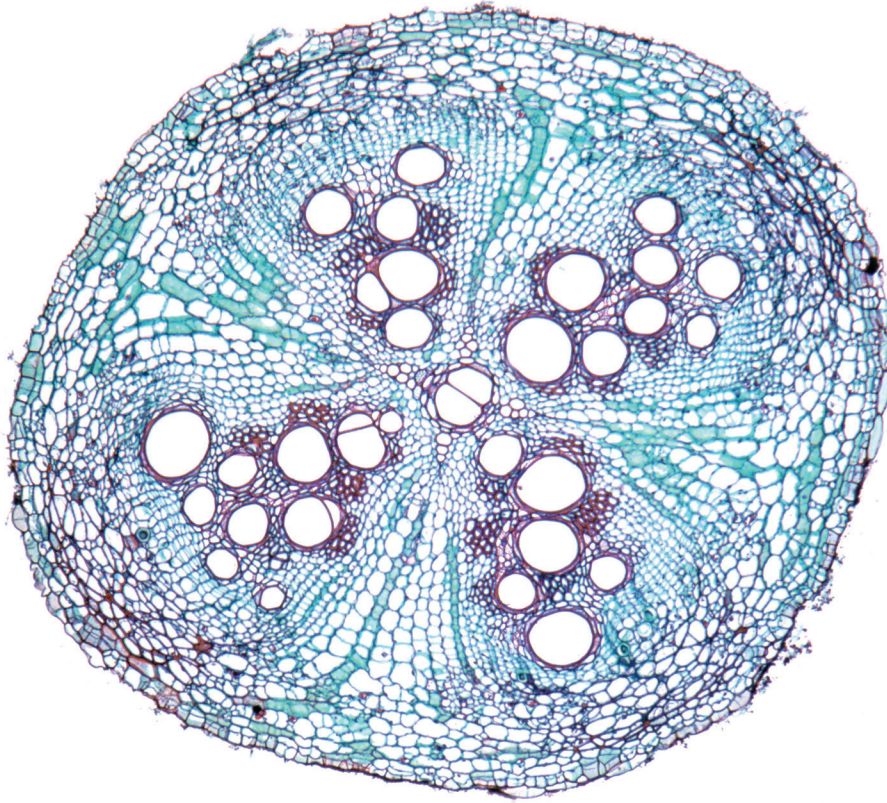
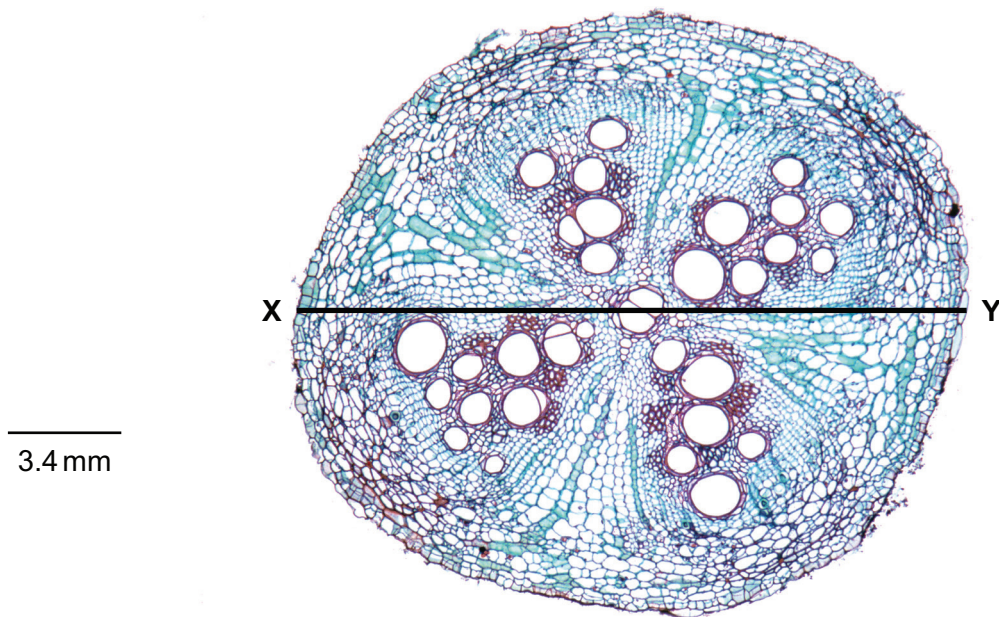

Fig. 2.1
Fig. 2.2
- (b) Fig. 2.1 is a photomicrograph of a stained transverse section through a root of a different type of plant.
Identify **three** observable differences, other than size and colour, between the root section on **M1** and the root section shown in Fig. 2.1.
- (c) Fig. 2.2 is the same photomicrograph as that in Fig. 2.1, with the line **X–Y** drawn across its width.
- (i) In Fig. 2.2 the line **X–Y** is drawn across the diameter of the root section.
- (ii) Calculate the area of the root section in Fig. 2.2, using the actual diameter from (c)(i) and the equation:
- (iii) Suggest why the answer to (c)(ii) is an estimate of the area of the root section shown in Fig. 2.2 rather than the actual area.
- (iv) Suggest how a more accurate estimate of the area of the root section shown in Fig. 2.2 could be made.